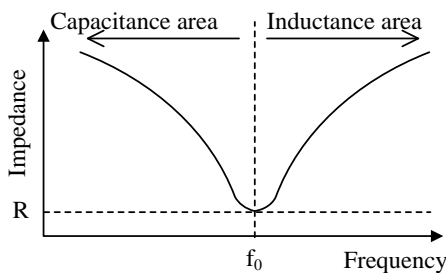

Figure 9-2. Impedance of Resonant Circuit
When the frequency, f , changes, the impedance of resonant circuit will change as shown in Figure 9-2.
When $2\pi fL = 1/2\pi fC$, \hat{Z} of Equation (2) becomes the minimum value, R (see Figure 9-2). In the case, ω is calculated by Equation (3).